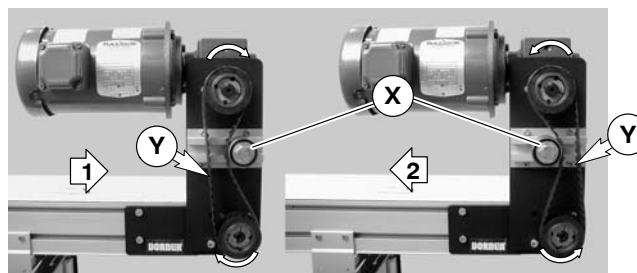

Figure 10
8. Depending on conveyor belt travel (direction 1 or 2), locate timing belt tensioner (X of Figure 10) as shown. Tension timing belt to obtain 1/8" (3 mm) deflection for 6 lb (3 Kg) of force at timing belt mid-point (Y). Tighten tensioner screw to 110 in-lb (12 Nm).
3. Depending on conveyor belt travel (direction 1 or 2), locate timing belt tensioner (X of Figure 10) as shown. Tension timing belt to obtain 1/8" (3 mm) deflection for 6 lb (3 Kg) of force at timing belt mid-point (Y). Tighten tensioner screw to 110 in-lb (12 Nm).
5. Depending on conveyor belt travel (direction 1 or 2), locate timing belt tensioner (X of Figure 10) as shown. Tension timing belt to obtain 1/8" (3 mm) deflection for 6 lb (3 Kg) of force at timing belt mid-point (Y). Tighten tensioner screw to 110 in-lb (12 Nm).